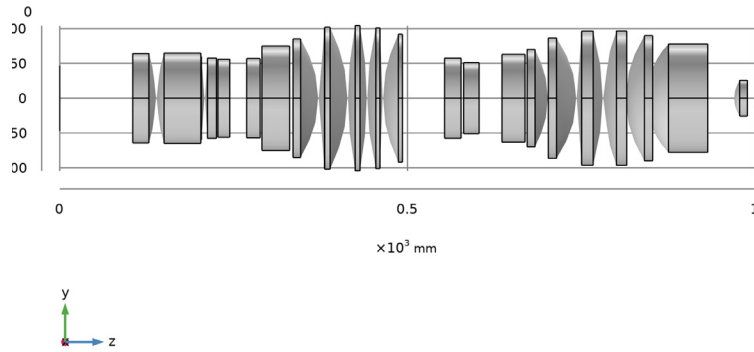

Figure 1: Microlithography lens geometry sequence. The rays propagate from left to right.
When constructing a geometry in COMSOL to be used in a Geometrical Optics ray trace, it is important to appreciate that the order in which optical elements are placed in a geometry sequence does not affect the results of the trace. However, it is convenient to place optical elements relative to one another. This can be achieved by taking one of the built-in work planes in a Part Instance as the reference for the placement of the next Part Instance. The resulting lens geometry sequence is shown in Figure 1. Detailed instructions for creating the geometry can be found in Appendix — Geometry Instructions.
- 9 In the **Graphics** window toolbar, click ▼ next to  **Go to Default View**, then choose **Go to ZY View**. This will orient the view to place the optical axis (z-axis) horizontal and the y-axis vertical. Compare the resulting geometry to Figure 1.